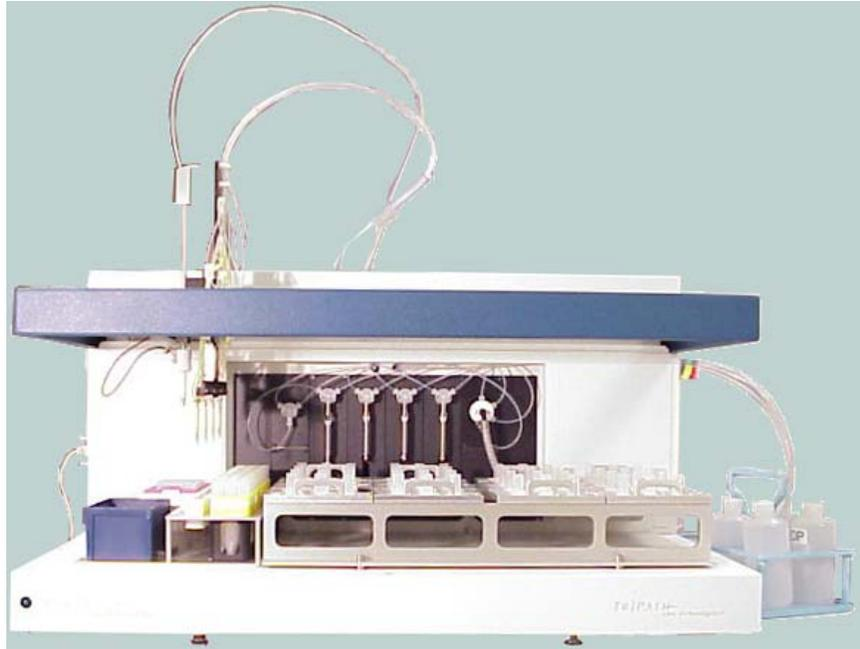

Figure 3-10 PrepStain instrument
1. The Tecan robotic sample processor illustrated in *Figure 3-10* is a fully automated sample processor. It is the base instrument of the PrepStain system. The PrepStain instrument is a system of microprocessor-controlled liquid handling components controlled by system software that resides on the hard disk of a computer. An operator controls the mechanical components from the computer keyboard. Special preparation methods, supplied by BD are used for each application.